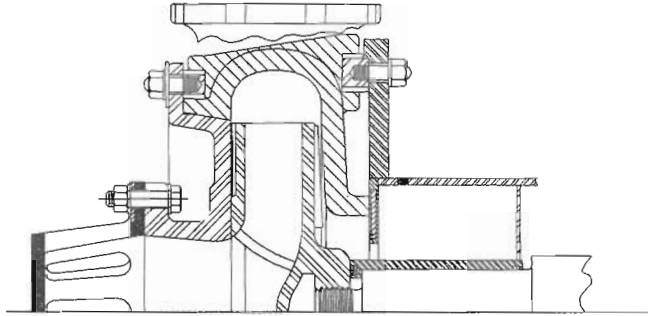

Figure 8. LCV Hard Metal Wet End
- 1.) Hard Metal. (Figure 8). Single-wall casing, impeller and suction liner of high-chrome white iron. Suitable for high-discharge head, all particle sizes up to maximum sphere passage and mildly corrosive slurries. Custom materials available for highly corrosive slurries.